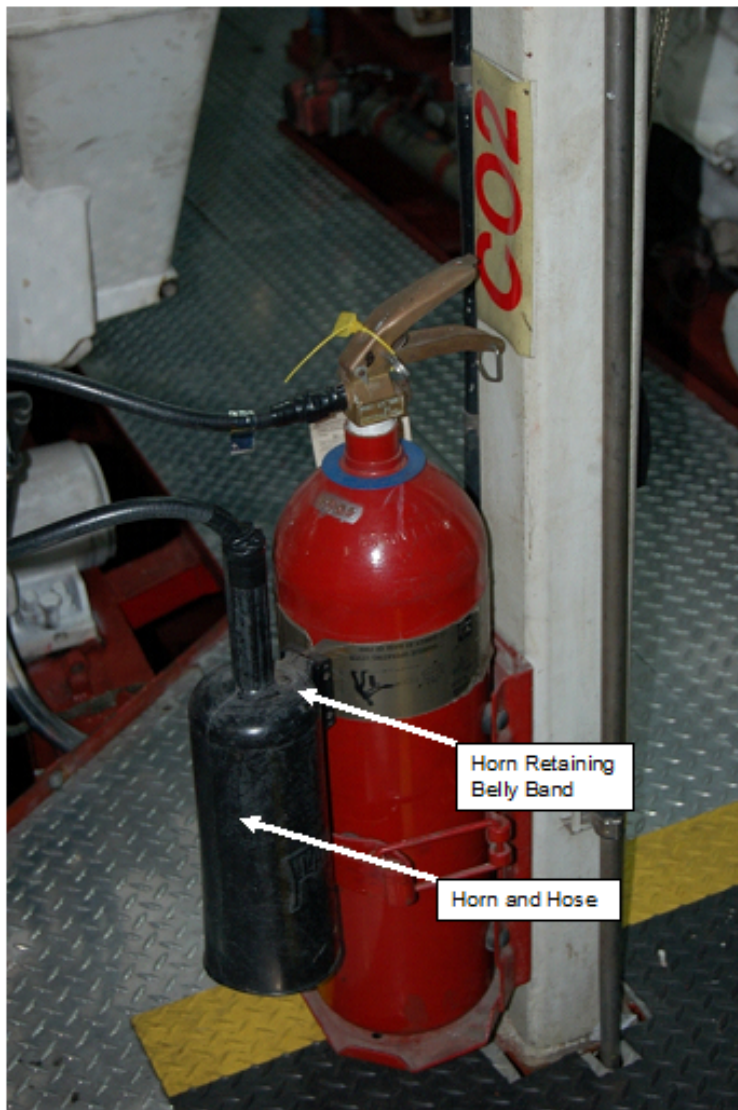

Figure 551-88L-2049_05
(7) Inspect Belly band and horn clamp assembly to ensure horn can be mounted securely when not in use. (refer to figure 551-88L-2049_05).